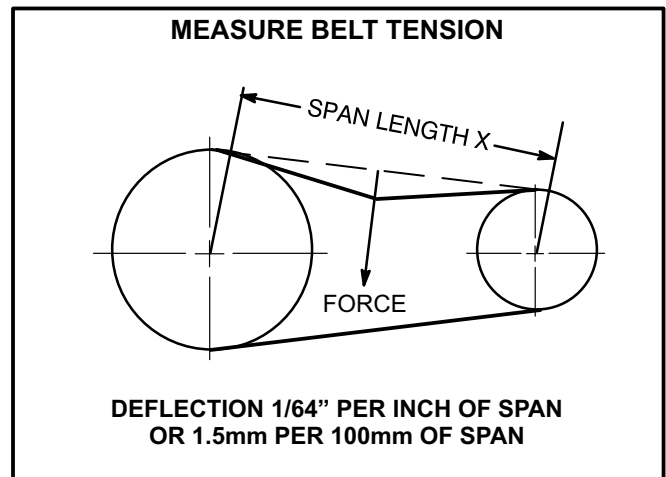

FIGURE 11
- 1- Measure span length X. See figure 11.
- 2- Apply perpendicular force to center of span (X) with enough pressure to deflect belt 1/64" for every inch of span length or 1.5mm per 100mm of span length.